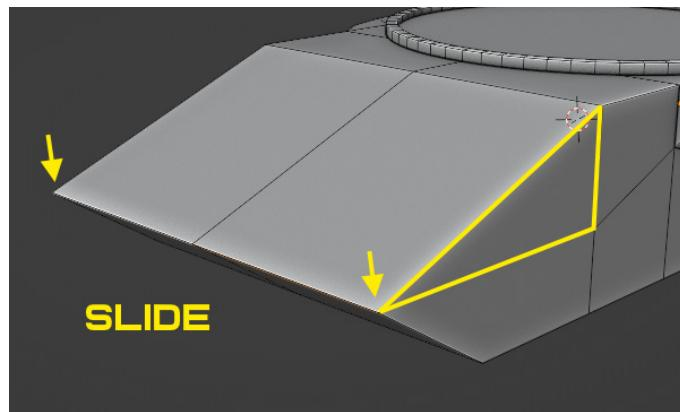

Figure 8.1 – A sliding edge
1. Press G twice to slide down the edges at the front of the hull, as shown in *Figure 8.1*. Remember to merge vertices with *Shift + W*.